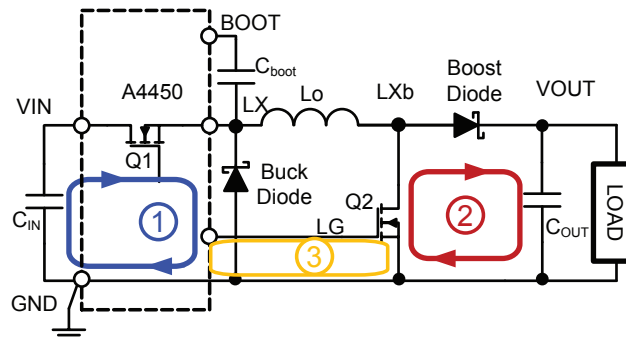

Figure 20: Typical Buck-Boost Regulator
A good PCB layout is critical for the A4450 to provide clean, stable output voltages. Follow these guidelines to ensure a good PCB layout. Figure 20 shows a typical buck-boost converter schematic with the critical power paths/loops.
1. Place the ceramic input capacitors C_{IN} as close as possible to the VIN pin and GND pins to minimize the area of the critical Loop 1 (shown in Figure 20); and the traces of the input capacitors to VIN pin should be short and wide to minimize the inductance. The larger input capacitor can be located further away from VIN pin. The input capacitors and A4450 IC should be on the same side of the board with traces on the same layer.